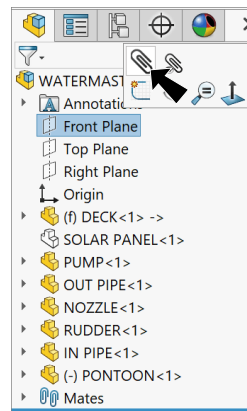

Fig. 40
Step 1. Click **Front Plane**  in the Feature Manager and **Mate**  on the context toolbar, **Fig. 40**.